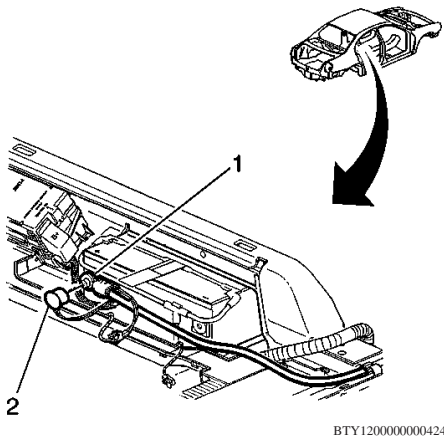

Fig. 3 Battery positive cable disconnection
6. Disconnect battery positive cable (1) from battery, **Fig. 3**.
4. Connect battery positive cable (1) to battery, **Fig. 3**. **Torque** battery cable bolt to 13 ft. lbs.